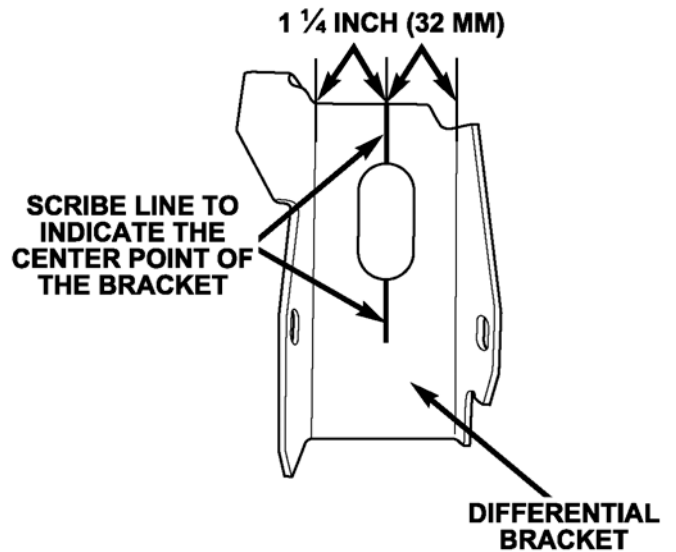

Figure 28
12. Find the center point of the new differential bracket and then scribe a line as shown in Figure 28.